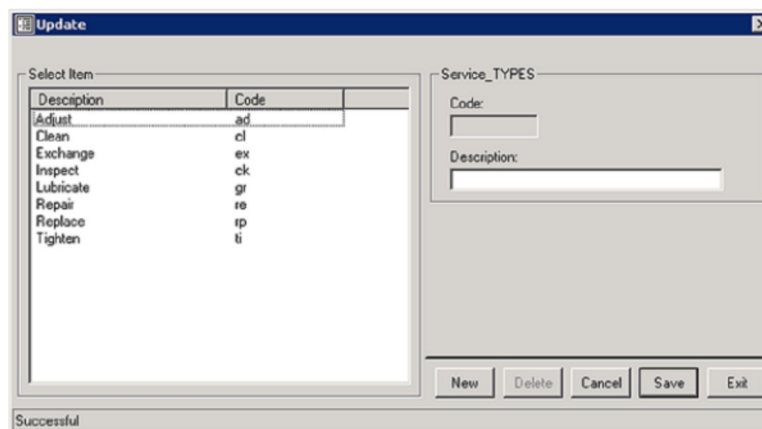

Figure 27. Maintenance Types dialog.
2. Click **New** on the *Service Types* dialog (see Figure 27).